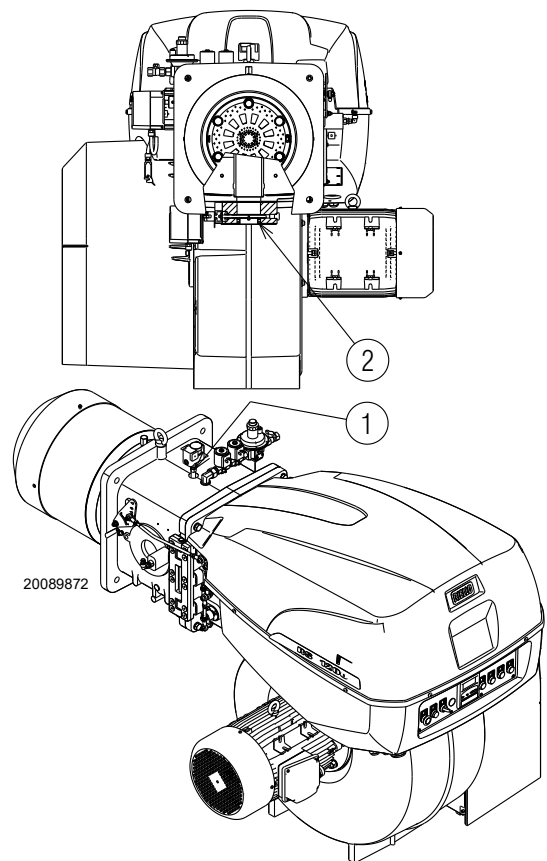

Fig. 18
Gas pressure measured at the test point 1) (Fig. 18), with:
Pressure loss at gas butterfly valve 2)(Fig. 18) with maximum opening: 90°.
- subtract the combustion chamber pressure from the gas pressure measured at test point 1)(Fig. 18).
Gas pressure at test point 1)(Fig. 18) = 59.2 mbar
To calculate the required gas pressure at test point 1)(Fig. 18), set the maximum modulating output required from the burner operation:
- read, on the right (column 1), the pressure at the test point 1)(Fig. 18).
Pressure required at test point 1)(Fig. 18).